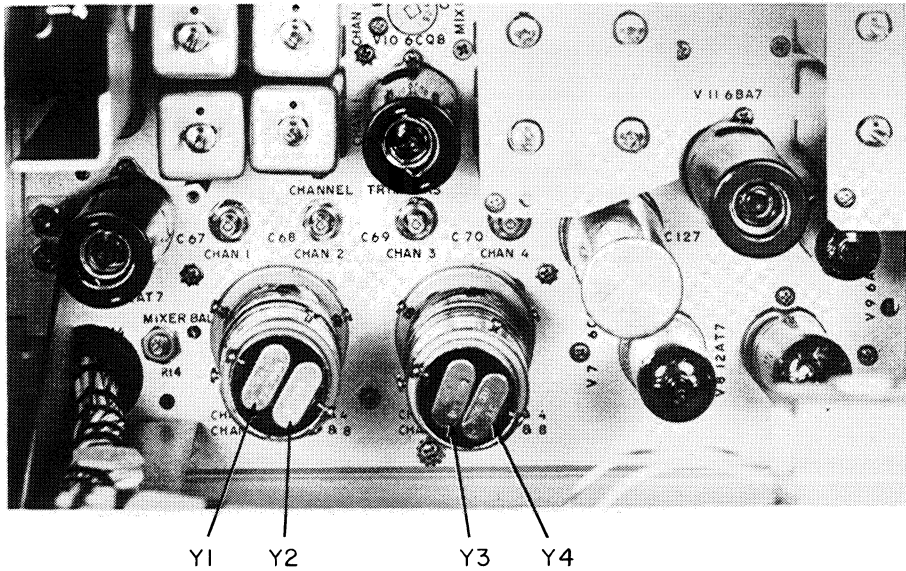

Figure 2-2. Channel Injection Crystal Positions
- Insert desired channel crystals into channel-crystal ovens, HR2 and HR3. Figure 2-2 is a partial photograph of the 32RS-1 chassis indicating possible crystal positions. Channel crystals are located according to oven pins as follows: